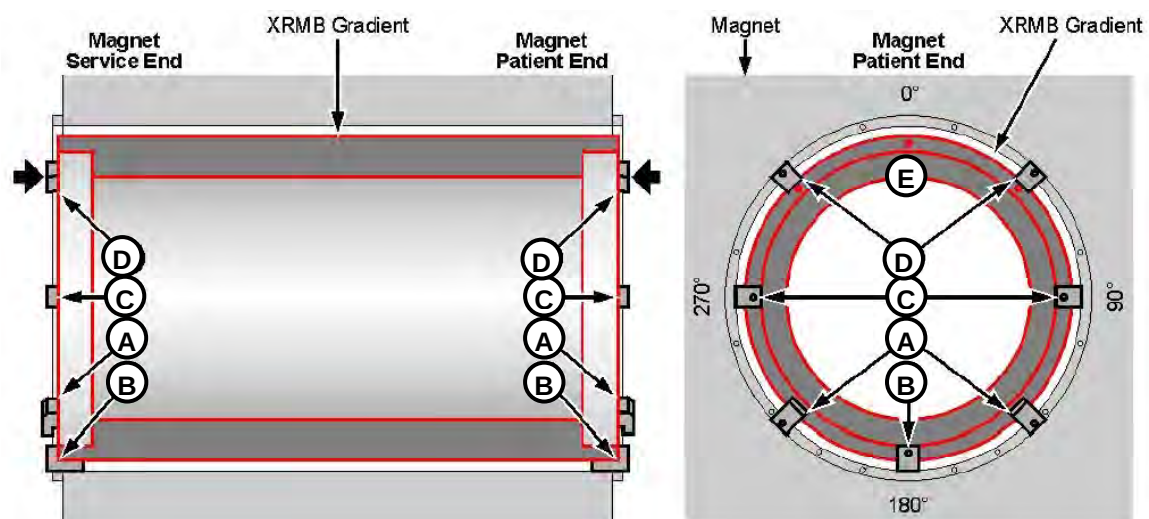

Figure 58 – Installing the upper Wedges
- Y. Use the same method as in step "s", install 45° and 315° wedge to both ends of the magnet. **(Fig58, D)**
- AA. Use the same method as in step "t", install 0° wedge to the patient-end of the XRMB. (there is no wedge at 0° at the service end). **(Fig 58, E)**